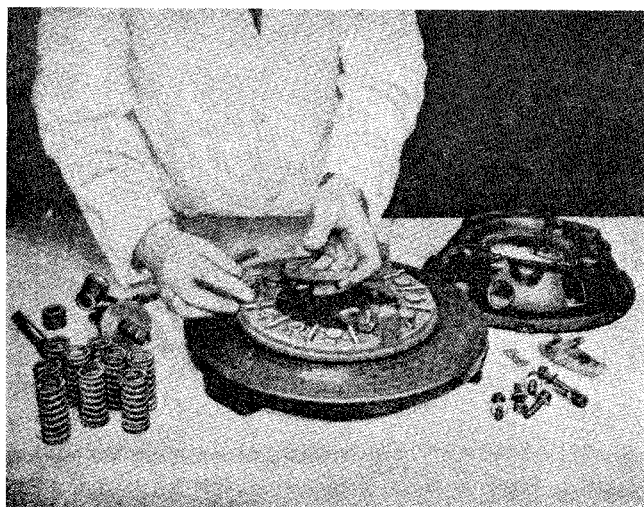

Fig. 11 Fitting Release Levers to Pressure Plate.
- (c) By holding the strut in the pressure plate to one side, feed the plain end of the eye bolt (assembled to release lever) into the pressure plate (Fig. 11).